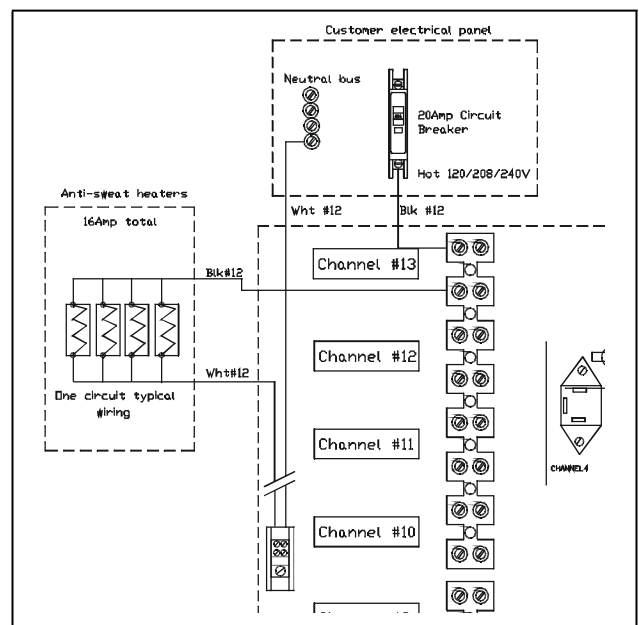

Figure 2-4 - Typical Heater Wiring Layout
3. Provide power to the case heaters from the store circuit breaker panel **through** the PMAC II panel terminal strip using #10-12 AWG wire, as shown in **Figure 2-4**.